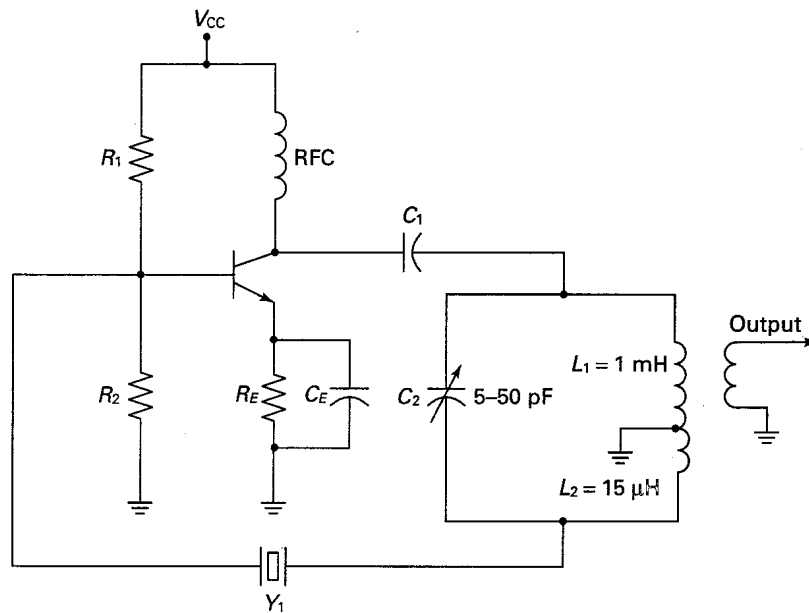

Fig. 2-25
**2.11** Refer to Fig. 2-25. In which mode does the crystal  $Y_1$  operate? Does the resonant frequency of the tank affect circuit operation?
**2.12** Refer to Fig. 2-25. If  $Y_1$  has a series resonant frequency of 1 MHz, calculate the following: (a) the value of  $C_2$  required to resonate at 1 MHz, (b) the feedback fraction  $B$ , (c) the minimum voltage gain  $A_{V(\min)}$ .